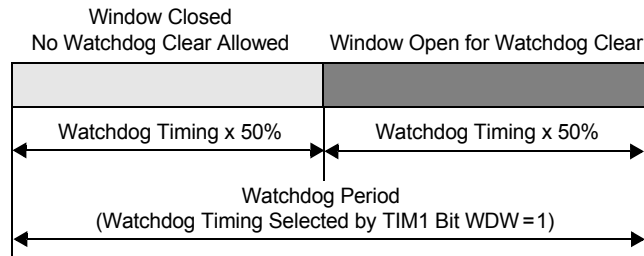
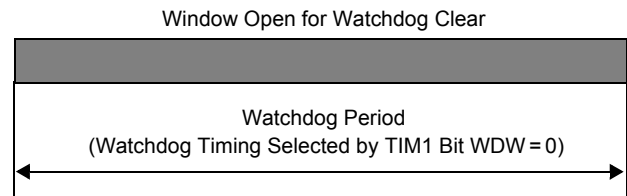

Figure 28. Window Watchdog
Figure 29. Timeout Watchdog
- TIM1—Controls the watchdog timing selection as well as either the watchdog window or the watchdog timeout option (Figure 28 and Figure 29, respectively). TIM1 is selected when bit D3 is 0 (Table 30). Watchdog timing characteristics are described in Table 31.